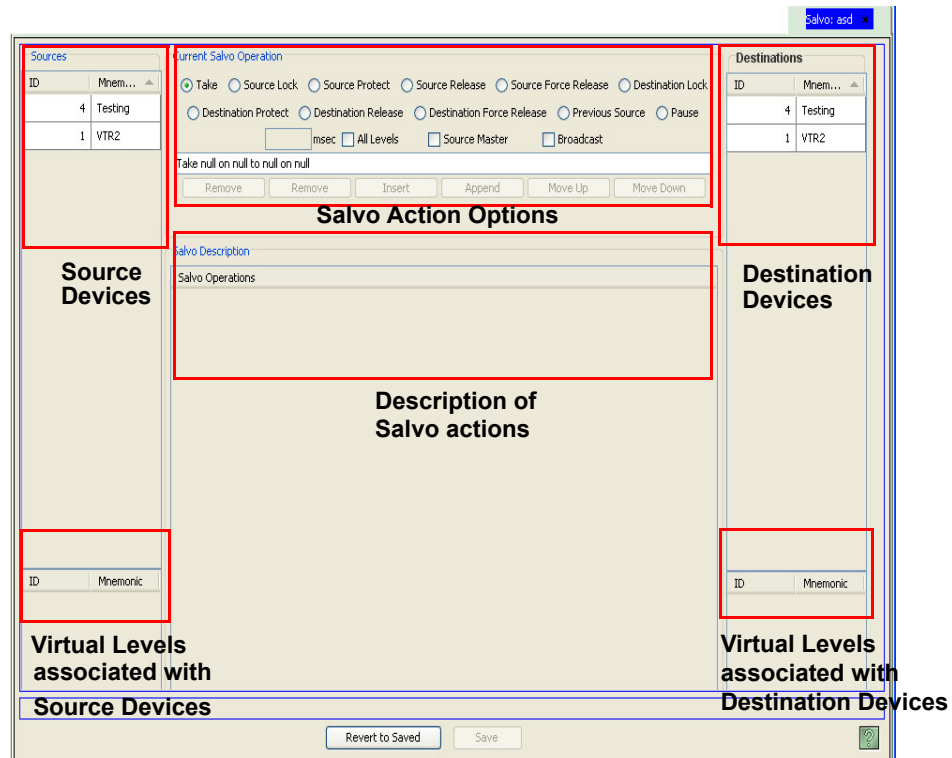

Figure 15-2. Salvo Details Page
- 5 Click Next. The 'Salvo Details' page appears, as shown in Figure 15-2.